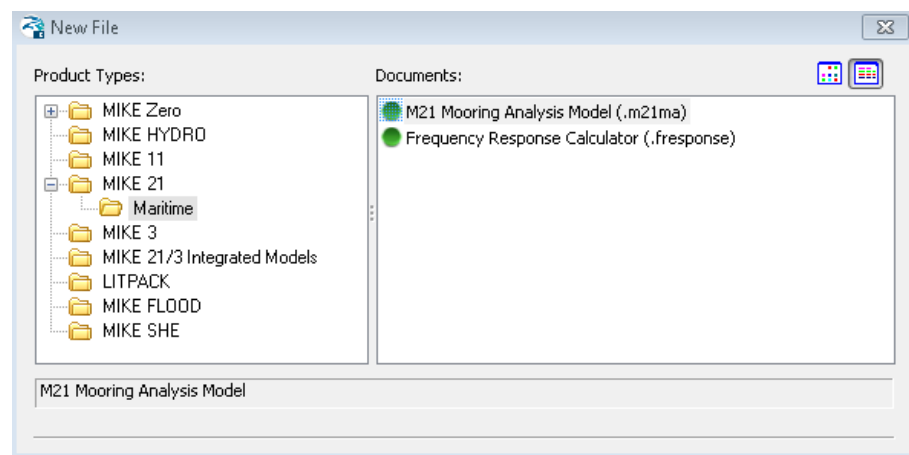
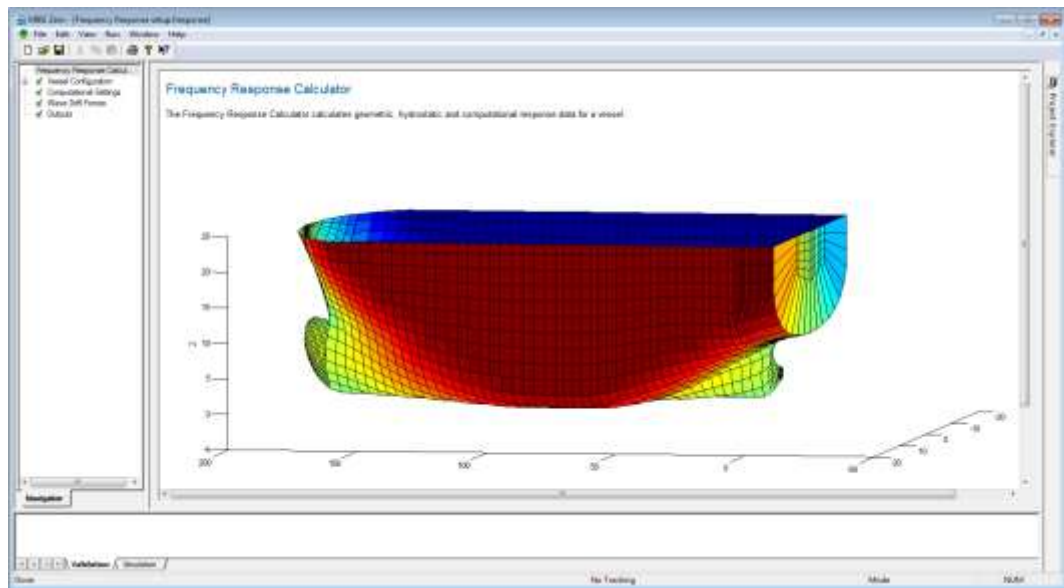

Figure 2-1 Location of Frequency Response Calculator setup editor
Figure 2-2 FRC main page
1. Create a new instance of the (.fresponse) editor as shown in Figure 2-1 by clicking **OK**. The FRC main page (Figure 2-2) should appear on the screen.